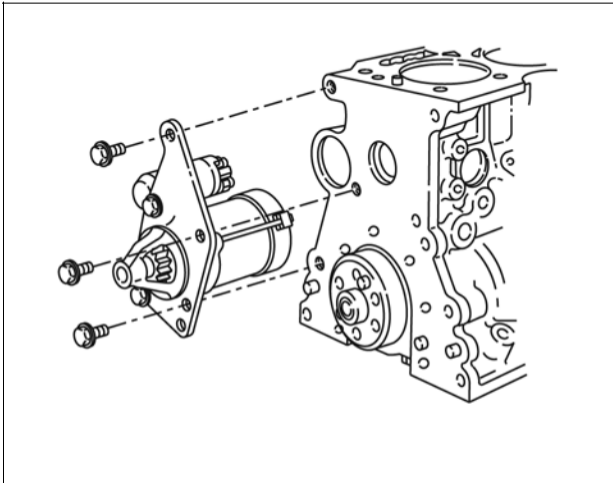

Figure 1
- 4. Remove starter motor (Figure 1).